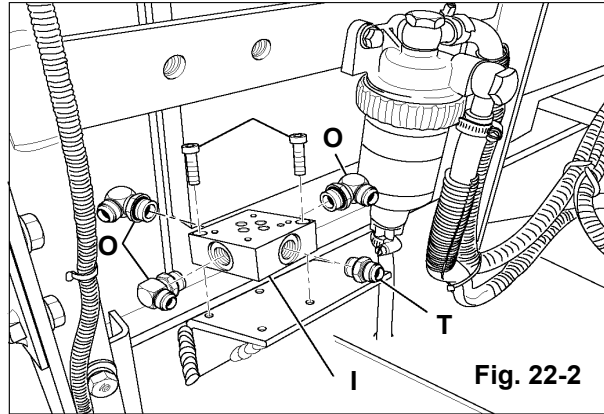

Fig. 22-2
4. Install three 90 degree #6 O-Ring X #6 JIC Male fittings (**Chart #5 - O**) and one straight #6 O-Ring X #6 JIC Male (**Chart #5 - T**) into the Mounting Subplate (**Chart #5 - I**) as shown in **Fig. 22-2**.